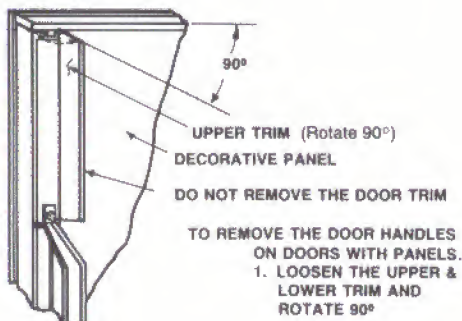

FIGURE 3
1. Loosen the upper and lower door handle trim and rotate 90°. See Figure 3.